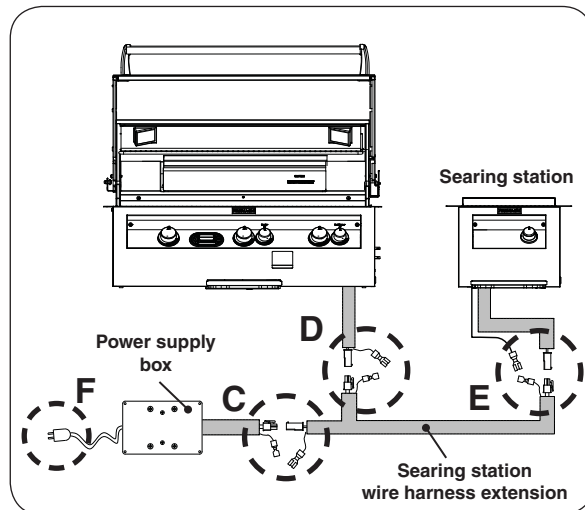

Fig. 17-3 Connect searing station to grill setup
3. Locate the end of the searing station wire extension that has two molex and ground connections. Connect the extension (plug) molex connection to the power supply (receptacle) molex connection and ground wires (See Fig. 17-3, **C**).
4. Connect the extension (receptacle) molex to the grill (plug) molex connection and ground wires (See Fig. 17-3, **D**).
5. Connect the opposite end of the extension to the searing station as shown in Fig. 17-3, **E** (molex and ground wire connections).
6. Reconnect the power cord (see Fig. 17-3, **F**).